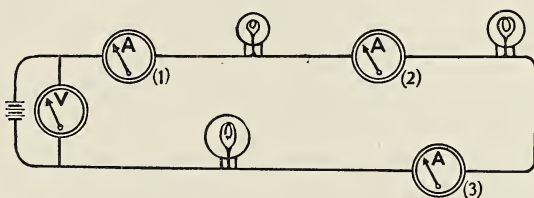

Fig. 225. Diagram of series circuit arranged for testing flow of current at three points of different resistance.
Series circuits. To understand the flow of current in series circuits, let us examine a series circuit of three lamps, the lamps offering different resistances. Three ammeters, (1), (2), and (3), show the strength of the current, or the rate of flow, at three different points in the circuit, as shown in Figure 225. All the ammeters read the same, showing that the rate of flow is the same at all the points. This situation exists because there is only one path for the current, and therefore the rate of flow cannot be greater at one point than at another. From this experiment we may conclude that the rate of flow of a current in a series circuit is the same in every part.